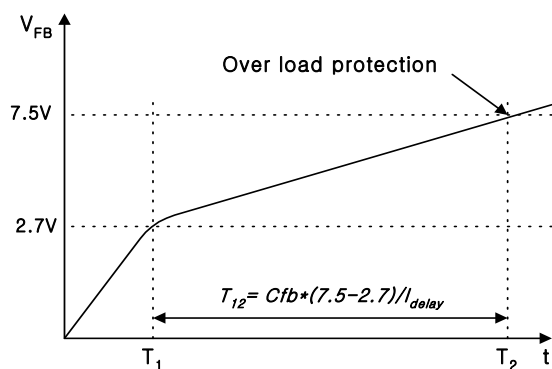

Figure 6. Over load protection
**3.2 Over Load Protection (OLP) :** When the load current exceeds a pre-set level for longer than pre-determined time, protection circuit should be activated in order to protect the SMPS. Because of the pulse-by-pulse current limit capability, the maximum peak current through the SMPS is limited, and therefore the maximum input power is restricted with a given input voltage. If the output consumes beyond this maximum power, the output voltage together with primary side regulation voltage decrease below the set voltage. This reduces the current through primary side regulation transistor, which increases feedback voltage (Vfb). If Vfb exceeds 2.7V, D1 is blocked and the 2uA current source starts to charge Cfb slowly compared to when the 0.9mA current source charges Cfb. In this condition, Vfb continues increasing until it reaches 7.5V, and the switching operation is terminated at that time as shown in figure 6. The delay time for shutdown is the time required to charge Cfb from 2.7V to 7.5V with 2uA.